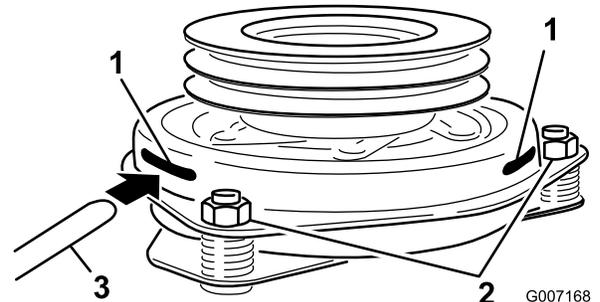

Figure 54
9. Insert a 0.015–0.021 inch (0.381–0.533 mm) feeler gauge through one inspection slot in the side of the assembly. Make sure it is between the armature and the rotor friction surfaces (Figure 54).
10. Tighten the lock nuts until there is slight binding on the feeler gauge but it can be moved easily within the air gap (Figure 54).